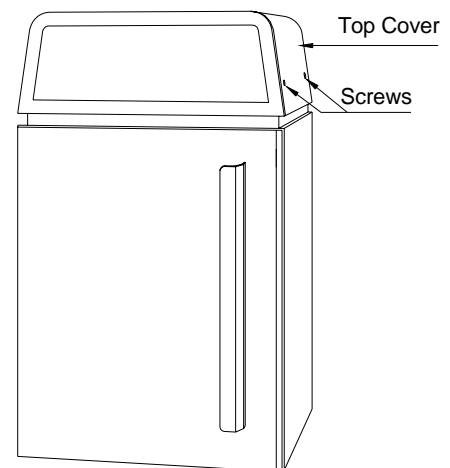

Figure 2-4
3. See Figure 2-4 and remove the top cover. After removing two screws from each side, use a screw driver and wedge out the lower edge before lifting it up and away from the unit.